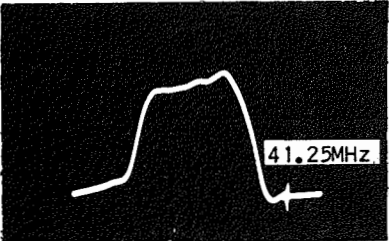

Figure 1
- Connect a 1.5k ohm, 10 watt resistor paralleled by a 0.15 mfd. capacitor between each exposed metallic cabinet part and a good earth ground such as a water pipe, as shown in Figure 1.